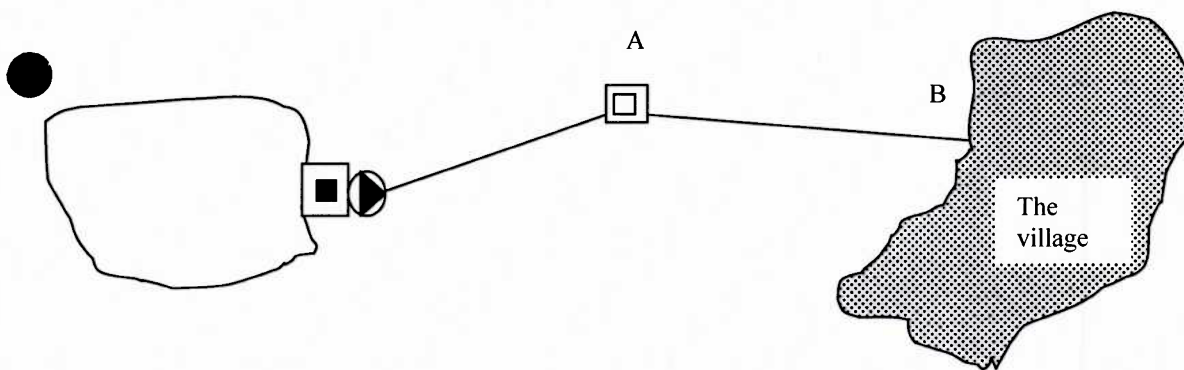

Figure 1
Figure 1 shows a sketch of water supply system to a village in eastern Norway. By the water source, there is a water treatment plant and a pumping station. A tank is located at A. In B the pipe from the tank reach the upper part of the village. The countryside fell with a constant slope from the tank A, to B and down throughout the whole village.
- b) The tank in figure 1 should have a volume reserve for a maximum daily consume in 24 hours and 4 hours for fire fighting.